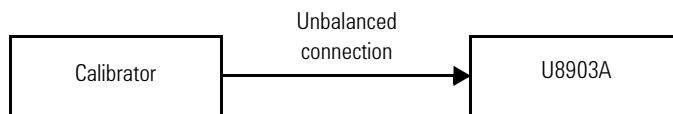

Figure 3-1 Calibrator to U8903A connection for DC accuracy verification
- 1 Connect the calibrator to the U8903A input channel to be tested via the Unbalanced connection as shown in Figure 3-1. The BNC-to-banana jack adapter is used for this connection. Preset both the U8903A and calibrator.